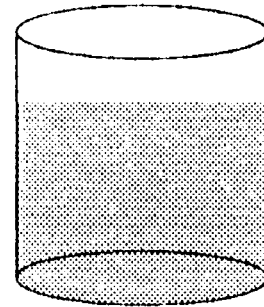

Figure 1. Fill a jar three-fourths full of water.
1. Fill the jar three-fourths full of water (see Figure 1).